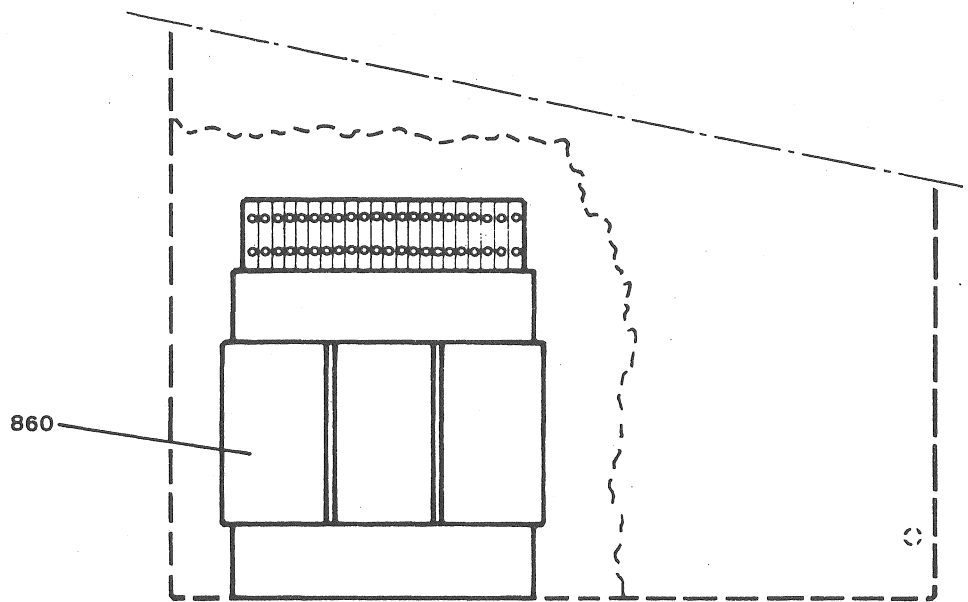

Fig 2
- Make sure that the input transformer (860) primary connections are correct for the voltage available (fig. 1). For this, remove the lower front panel after having loosened the "camlock" screws (fig. 2).